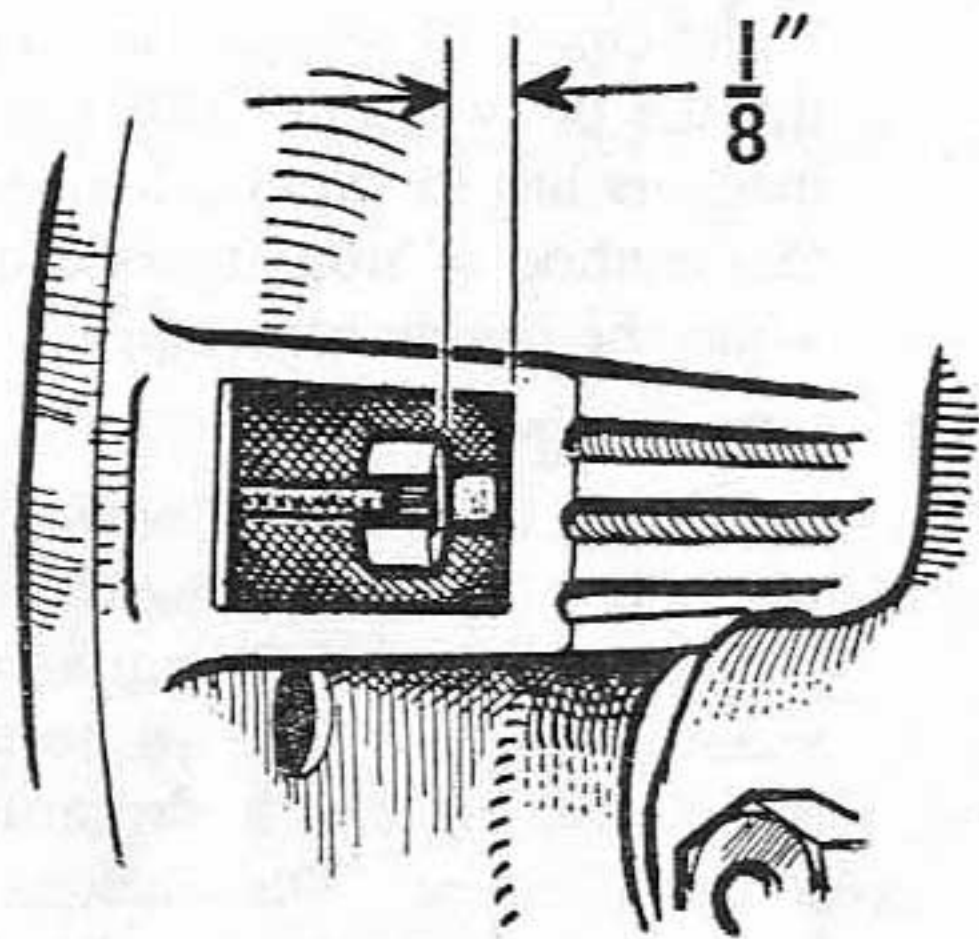

Fig. 2
1. Engines with covered clutch lever (See Fig. 2)